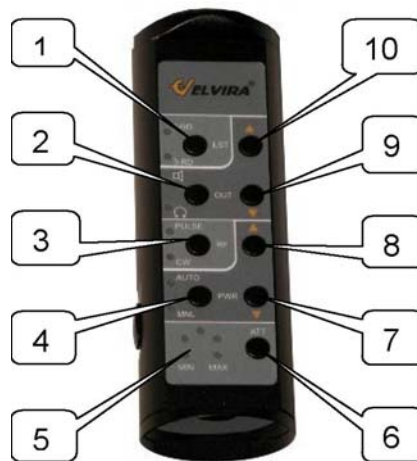

Fig. 4
**4.3.** A control panel is used to control operating of the detector. It consists of a case combined with a battery and fixed on the telescopic arm. A control board, buttons for operating modes control and display LEDs are in the case. Control buttons are divided into two groups by functional feature: «AUDIO» placed in the upper half of the panel and «POWER RF», in the lower part. Control panel is shown in Fig.4.